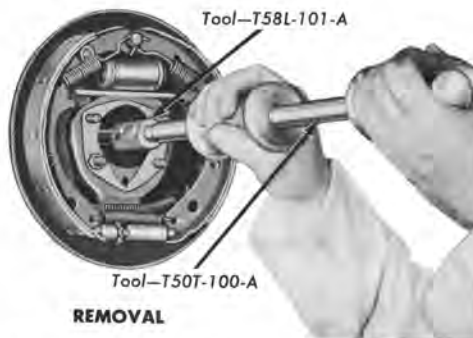

FIG. 2—Axle Shaft Seal Removal and Installation
9. If the axle shaft oil seal is to be replaced, remove and replace the seal with the tools shown in Fig. 2. Soak the new seal in light weight engine oil (SAE 10) for ½ hour before using. **Installation without use of the proper tool will distort the seal and cause leakage.**